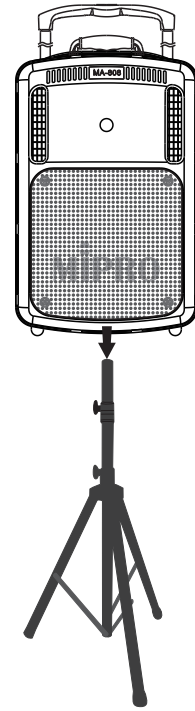

Fig. 4: MA-808 set up on a tripod
7. This system can be hand-carried, dragged and set up on a speaker tripod. Fig. 4